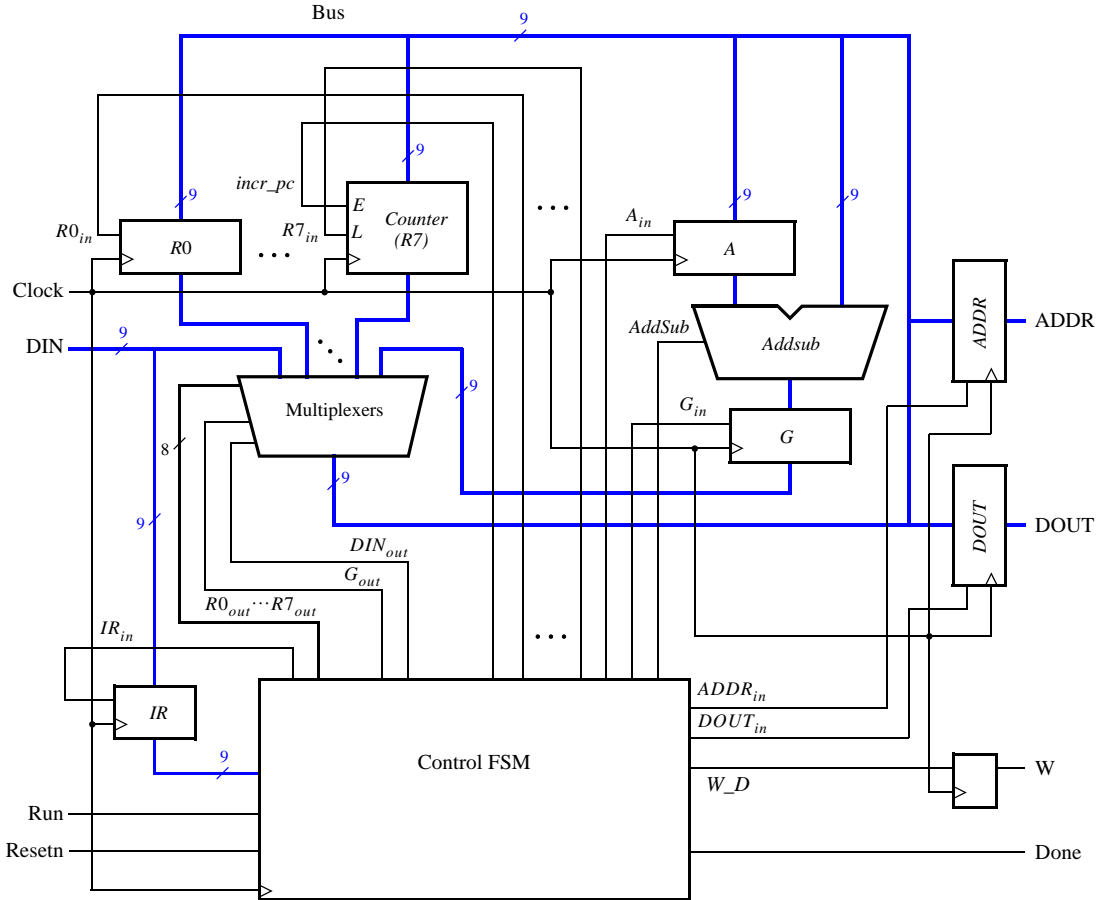

Figure 11: An enhanced version of the processor.
A schematic of the enhanced processor is given in Figure 11. In this figure, registers R_0 to R_6 are the same as in Figure 1 of Laboratory Exercise 9, but register R_7 has been changed to a counter. This counter is used to provide the addresses in the memory from which the processor's instructions are read; in the preceding lab exercise, a counter external to the processor was used for this purpose. We will refer to R_7 as the processor's *program counter* (PC), because this terminology is common for real processors available in the industry. When the processor is reset, PC is set to address 0. At the start of each instruction (in time step 0) the contents of PC are used as an address to read an instruction from the memory. The instruction is stored in IR and the PC is automatically incremented to point to the next instruction (in the case of **mvi** the PC provides the address of the immediate data and is then incremented again).
Figure 11 shows two registers in the processor that are used for data transfers. The *ADDR* register is used to send addresses to an external device, such as a memory module, and the *DOUT* register is used by the processor to provide data that can be stored outside the processor. One use of the *ADDR* register is for reading, or *fetching*, instructions from memory; when the processor wants to fetch an instruction, the contents of *PC* (*R7*) are transferred across the bus and loaded into *ADDR*. This address is provided to memory. In addition to fetching instructions, the processor can read data at any address by using the *ADDR* register. Both data and instructions are read into the processor on the *DIN* input port. The processor can write data for storage at an external address by placing this address into the *ADDR* register, placing the data to be stored into its *DOUT* register, and asserting the output of the *W* (write) flip-flop to 1.